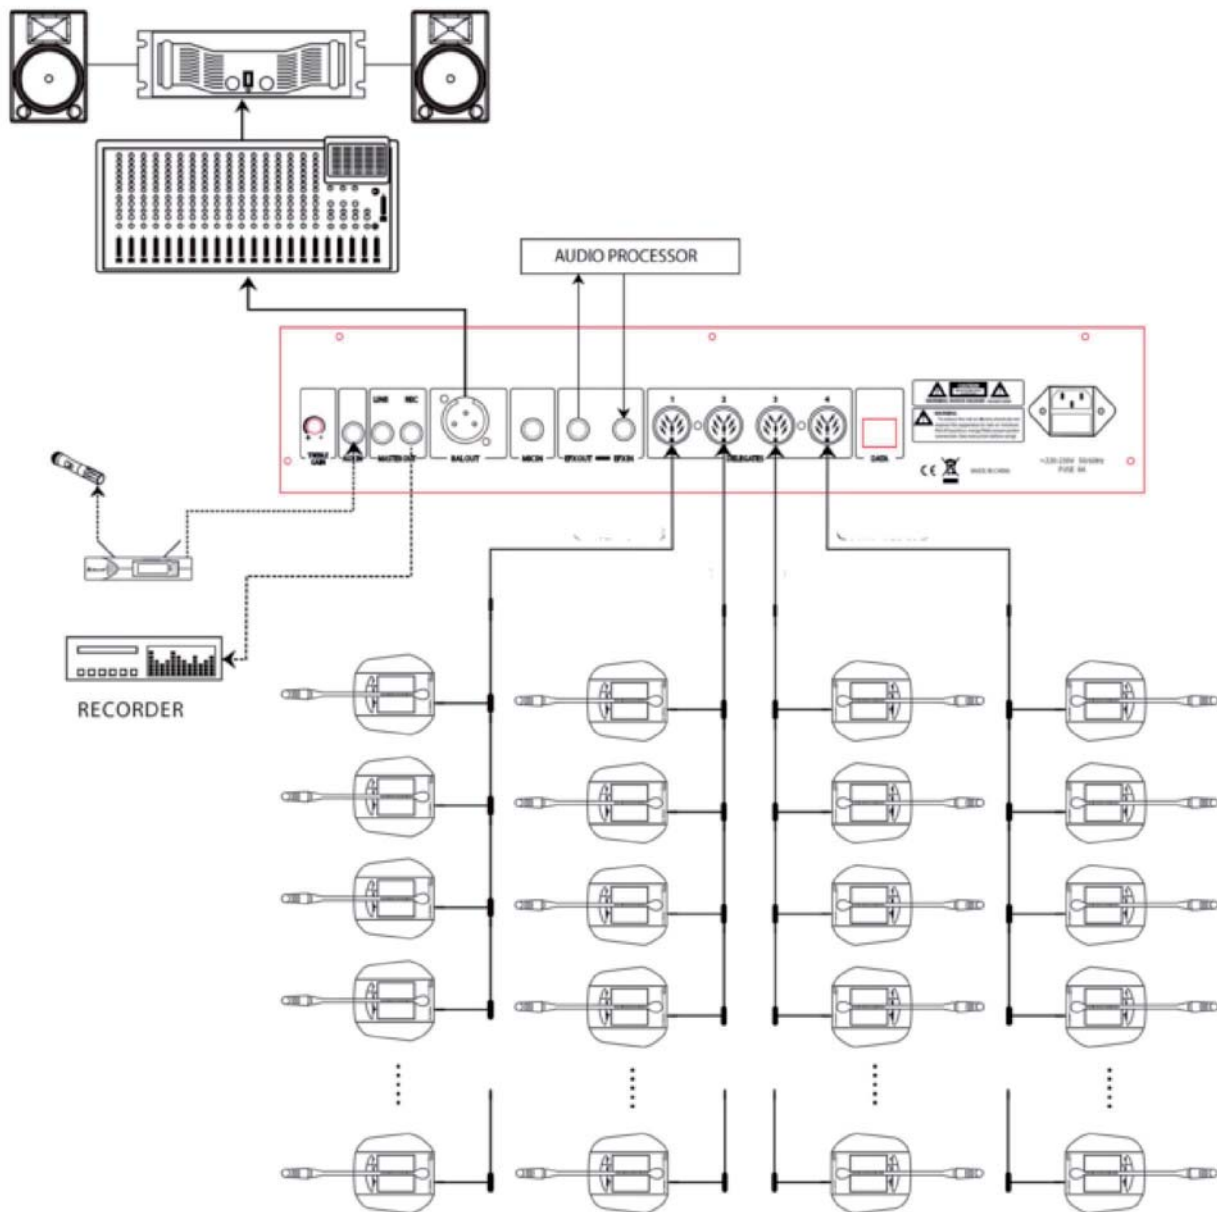

fig.5
Connect the unit to 230 V AC 50/60 Hz mains . Use the connection cables provided to connect the daisy-chained stations to the 4 **BASE INPUT**s (figure 2, ref. 23) as shown in **figure 5**, paying attention not to connect more than 30 stations to each line and no more than 64 stations altogether.